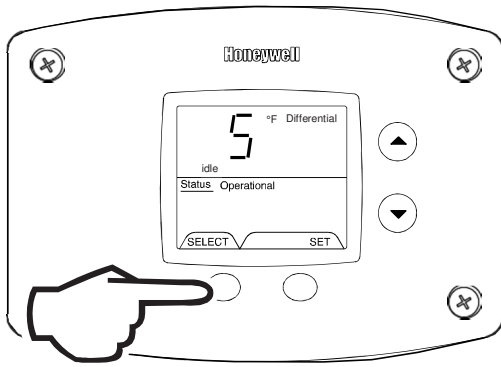

Fig. 37
6. Differential (Display only – shows the differential of the thermostat) (Fig. 37).